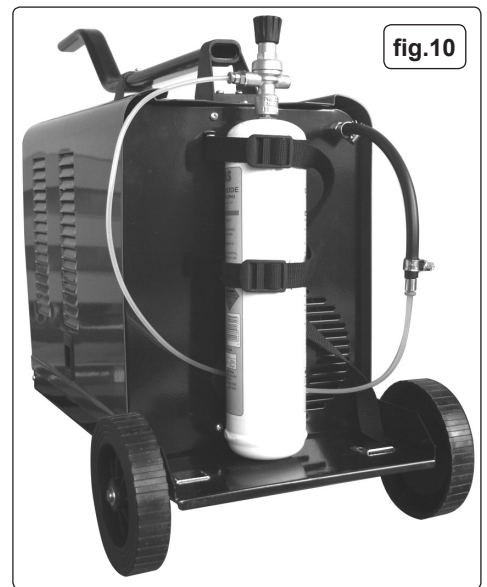

fig.10
- For welding stainless steel or aluminium, this welder can be converted to a conventional mig welder. To convert to gas, order a reel of regular wire, a bottle of suitable gas, tips and nozzles and a conversion kit. Kit 120.802032 contains a regulator plus connection hoses, hose adaptor and jubilee clips (see fig.10).
- 7.5 **Mount the gas cylinder:** Strap the gas cylinder to the back of the machine. Two nylon straps are provided to hold small cylinders in place. Thread the straps through the raised metal fixing loops on the back of the welder. Stand the gas cylinder on the rear platform and fix the straps around it as shown in fig.10.
- 7.6 **Connect gas cylinder to welder gas input.** (Kit 120.802032) Push the small adaptor into one end of the larger diameter hose. Push the other end of the hose onto the ribbed gas input connector on the back of the welder. Secure both ends of the hose with the jubilee clips provided. Push one end of the smaller diameter gas hose into the open end of the adaptor and push the other end into the regulator outlet, it will seal automatically. See fig10. To release the gas hose, press the collet inwards on the quick couplers and pull the hose out.